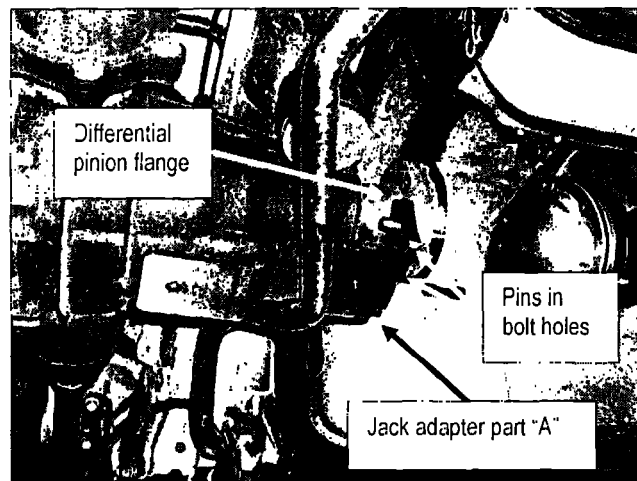

Figure 24
- Install part "A" of the adapter tool onto the pinion flange. Make sure both pins on the tool are inserted into the pinion flange bolt holes (see Figure 24).